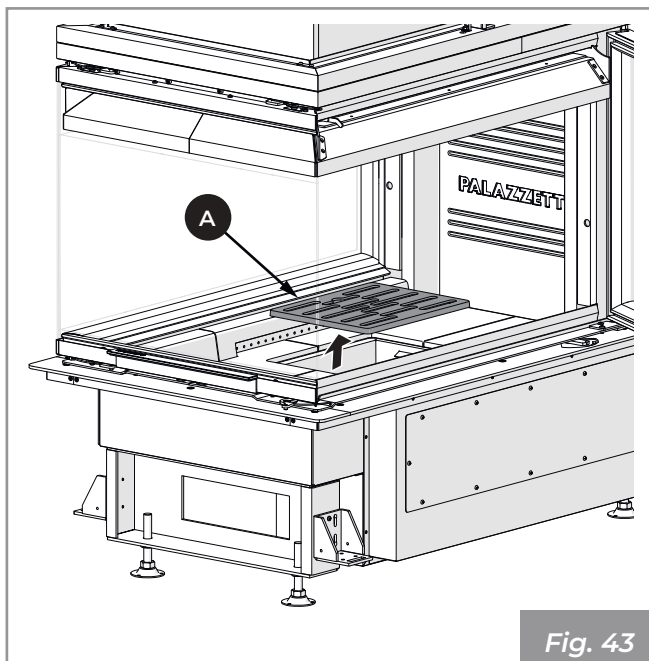

Fig. 43
- 1) Make sure that the grate (A) (Fig. 43) is free from any combustion residues that may obstruct the free passage of air. Remove it and clean the fire box using a hand brush (not supplied) conveying the combustion residues into the ash drawer. Pay attention to any burning embers.